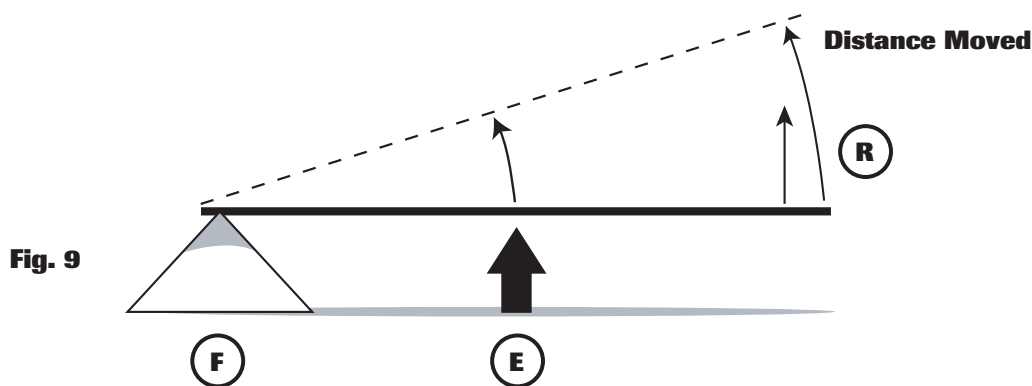

Fig. 9
- (c) 3rd Class levers increase distance and speed at the expense of force. Applying effort close to the fulcrum requires a great deal of force and the effort arm will only move through a small distance. The end of the resistance arm of the lever, however, moves through a greater distance, at a faster speed but with less force. In Fig. 9 the resistance (load) is located twice as far from the fulcrum as the effort. The load moves twice as far, in the same amount of time, as the effort but it requires twice as much applied effort force as moving it without the lever.